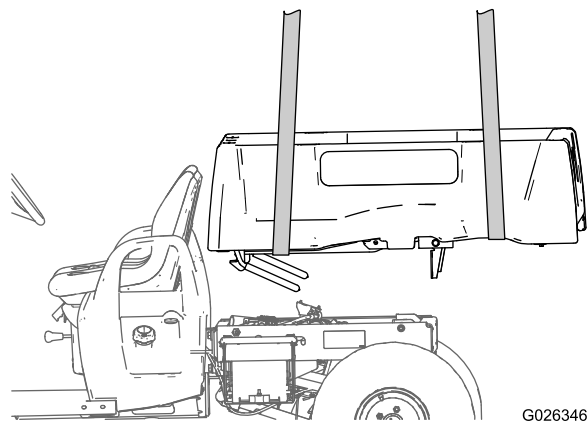

Figure 20
- 2. Using lifting equipment, lift the cargo box and position it over the frame of the machine so that the pivot-bracket assembly is aligned over the rear-frame channel (Figure 20).